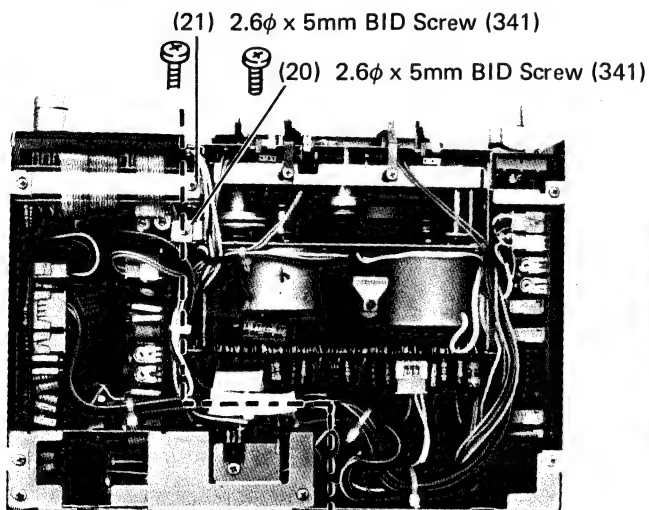
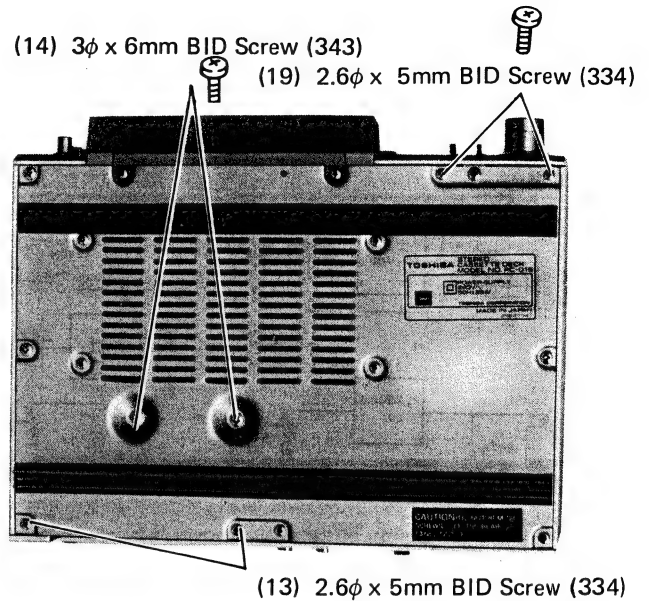

Figure 26.
Figure 24.
1. Remove one screw (12) and four screws (13) and (14) holding the bracket for the transformer as shown in Figure 24 and the bracket can be removed.
1. After removal of the power transformer mounting bracket, remove two screws (19) and one screw (20) as shown in Figure 24 and 26. The type mechanism assembly and the main chassis assembly can be separated as illustrated with a dotted line. (See Figure 26.) This is capable of checking and replacing parts on the Main P.C. Board and the logic P.C. Board.
1. Remove two screws (21) and (22) holding the LED P.C. Board and the meter drive P.C. Board as shown in Figure 26 and 27, and these P.C. Boards with the tape counter can be removed. Take care of the counter belt looped on the tape counter.